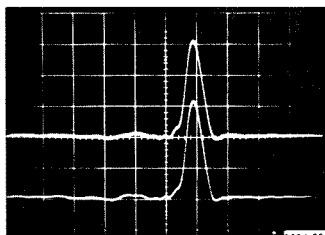

Figure 5-1b. Waveform obtained in calibration of the Type 1394.
k. The separation between the pulses should be less than 0.25 ns. Now set the POLARITY switch of the Type 1394 to -. The separation between pulses should still be less than 0.25 ns (see Figure 5-1b). Ideally, there should be no separation between the pulses. The best practical adjustment, however, will be such that one pulse leads a bit at one POLARITY setting, and lags by the same amount of time at the other POLARITY setting. The adjustment is made by trimming resistors R311 and R311F, which adjust tunnel diode bias and are, therefore, capable of changing pulse timing.